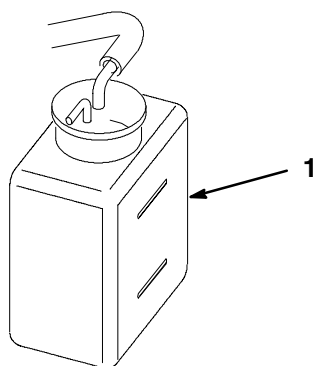

Figure 18
2. Check the coolant level (Fig. 18). It should be between the lines on the reserve tank when the engine is cold.